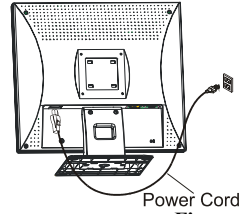

Figure 1-6
1. Connect the power cord to the AC socket. (See Fig. 1-6)